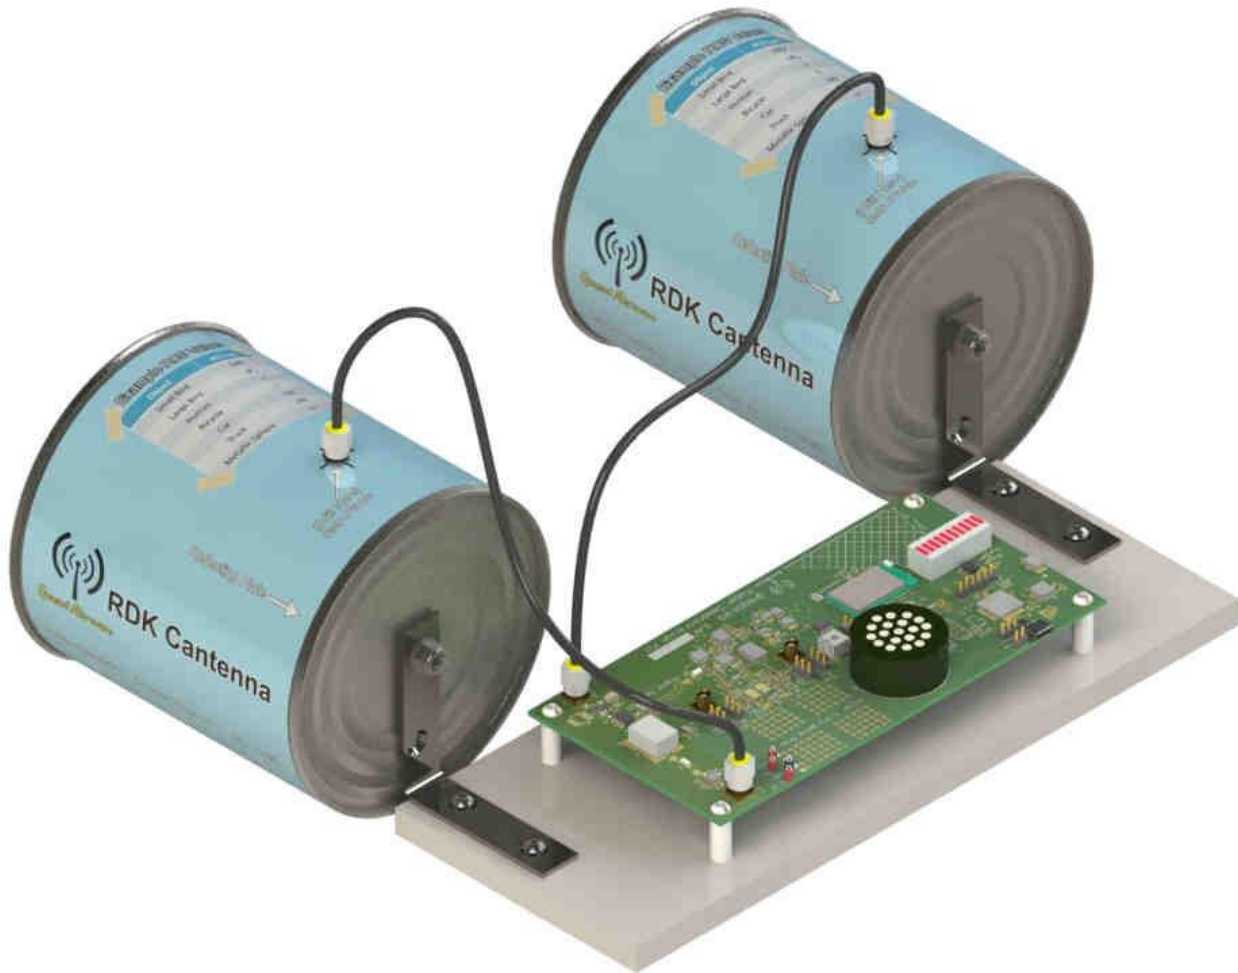

Figure 2: Assembled RDK
- b. The RDK (kits 2 and 3) should resemble Figure 2 above. You are now ready to connect your RDK to your computer.